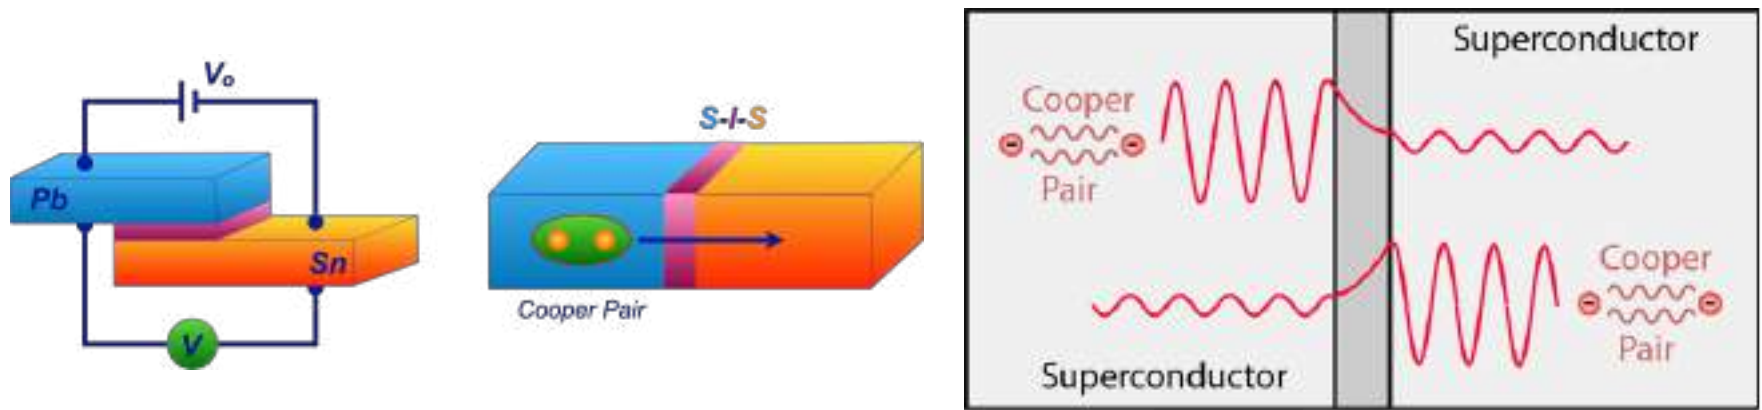

Fig. 12: a) Josephson Junction Superconductor–Insulator–Superconductor (S-I-S) structure with Pb and Sn
- The Josephson Effect is the phenomenon of current flow across two weakly coupled superconductors, separated by a very thin insulating barrier. This setup is known as a Josephson Junction (JJ) as shown in Fig. 12 a).
- The current that flows across the insulating barrier is called the **Josephson Current**. The junction is typically a Superconductor–Insulator–Superconductor (S-I-S) structure, where the insulating layer introduces a phase difference between the wave functions of Cooper pairs on opposite sides as shown in Fig. 12 b).